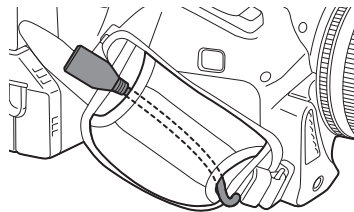

Fig. 5
- 4** Pass the USB 2.0 extension cable through the grip belt compartment. (Fig. 5)